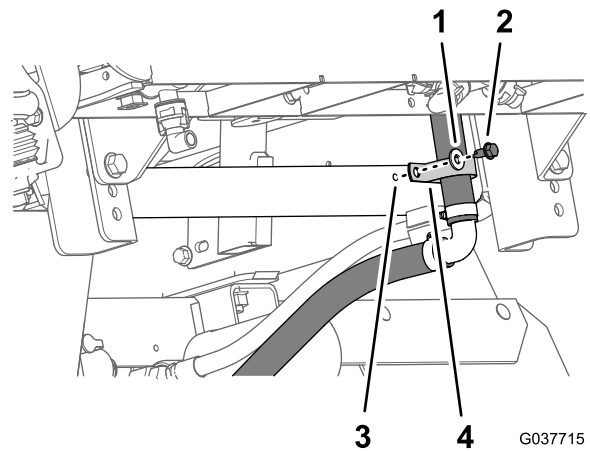

Figure 79
3. Secure the bottom of the bypass hose to the rear saddle plate of the machine (Figure 79) with the support clamp, flange-head bolt (5/16 x 3/4 inch), and washer (5/16 inch).